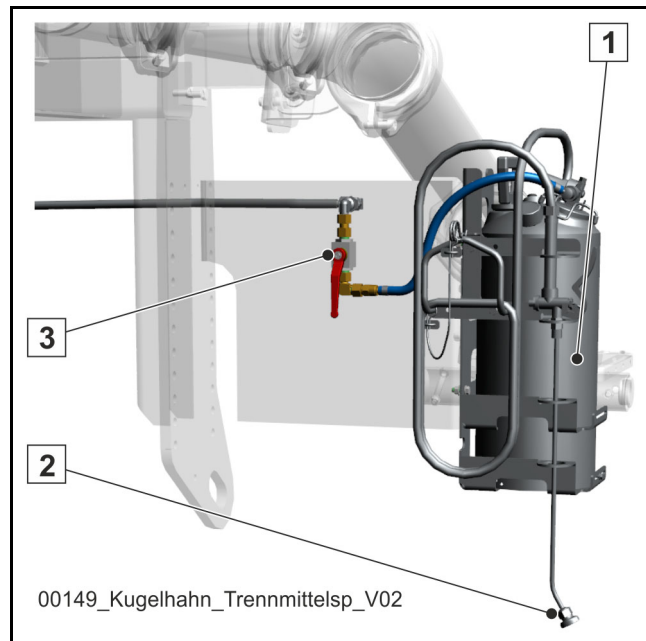

Fig. 492
If available, interrupt the compressed air supply by closing the ball valve (3) (**Fig. 492**). If there is no ball valve, shut down the vehicle.
The special equipment "release agent sprayer", consisting of a pressure tank (1) spray gun (2) and a ball valve (3) (**Fig. 492**) is generally located at the rear of your SCHWING machine.
Caption (Fig. 492)